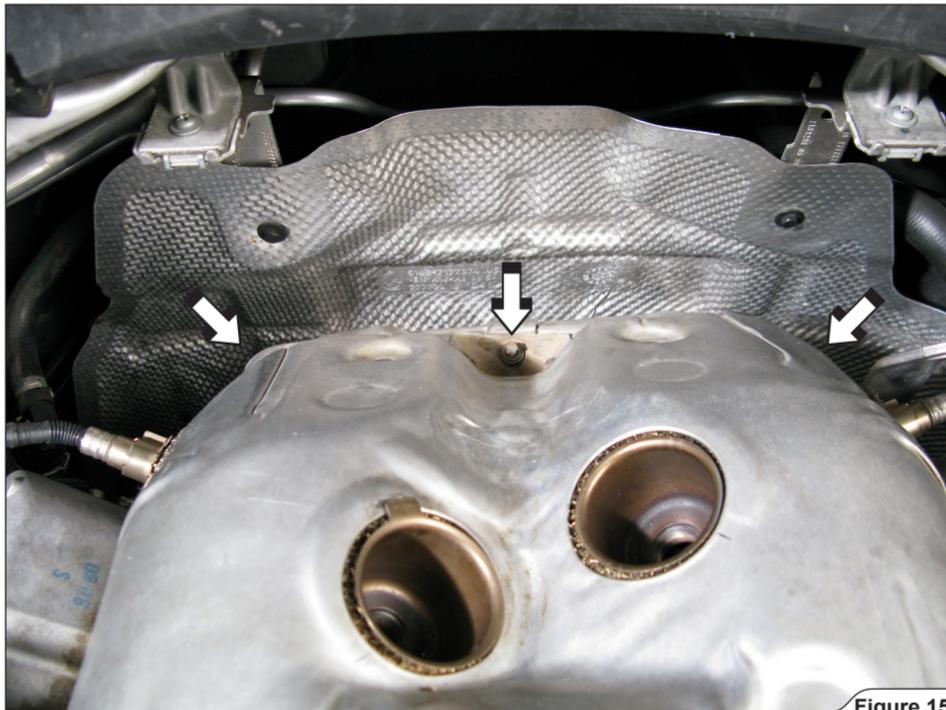

Figure 15
15. **For optional Down Pipes only:** unscrew marked bolts on the rear side of the heat shield and remove the upper heat shield. **(Figure 15).**